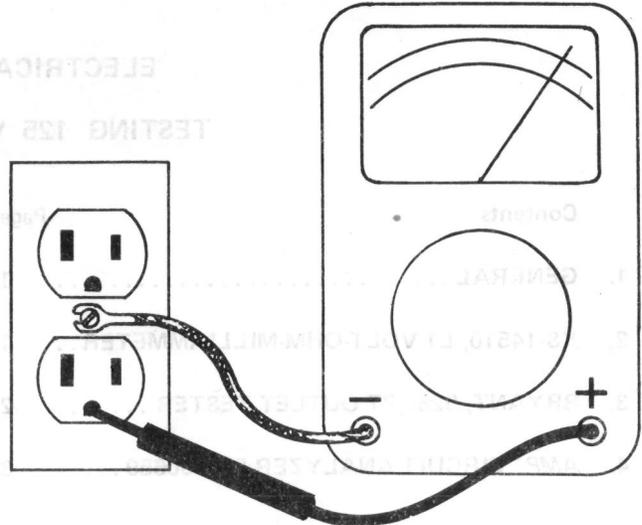

Fig. 4
4. Reconnect the positive (+) test lead to the ground slot (Fig. 4), continuity should be read.
*Note:* Meter should read zero (0) volts.